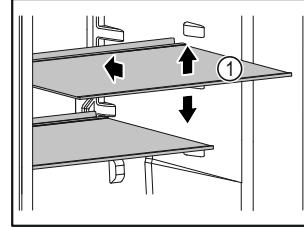

Fig. 66 Example illustration
- If shelves Fig. 66 (1) can be moved, adjust the shelves according to the height.